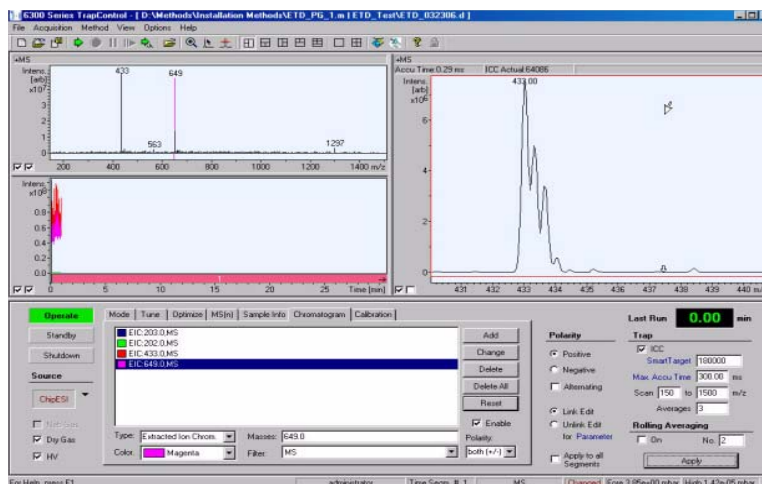

Figure 43 Angiotensin 1 triply charged 433 ion infusion at 18 $\mu\text{L/hr}$. The 6300 series trap control screen during the infusion of Angiotensin 1.
- 4 Observe that the Angiotensin 1 ions are present in Figure 43 on page 40.